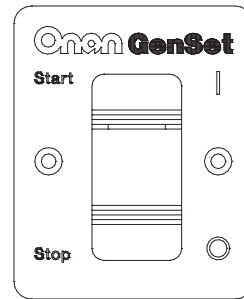

FIGURE 10. REMOTE CONTROL
- Remote start/stop switch with indicator lamp only (Figure 10).